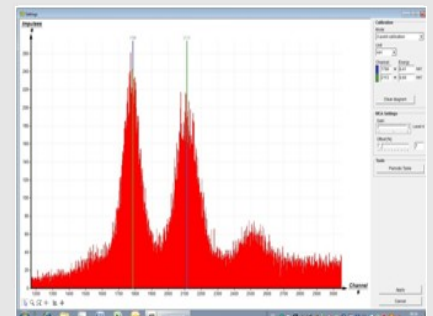

Fig. 5: calibration of the multi-channel analyser
- In the MEASURE program, select "Multi channel analyser" under "Gauge". Then, select "Settings and calibration". After the "Calibrate" button has been clicked, a spectrum can be measured. The counting rate should be < 300 c/s. Energy calibration settings: - 2-point calibration, - Unit = keV, Gain = 2 – Set the offset so that low-energy noise signals will be suppressed (usually a few per cent are sufficient), See Fig 5.